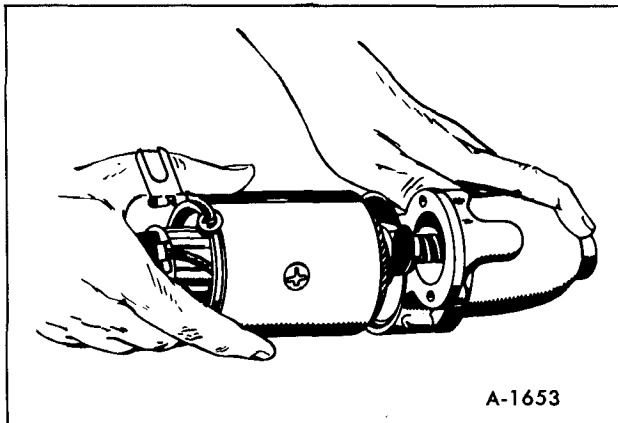

Figure 65—Yoke to Front Bracket Installation
6. Position the Yoke to the front bracket. Be sure that the yoke is properly indexed to the front bracket (figure 65).